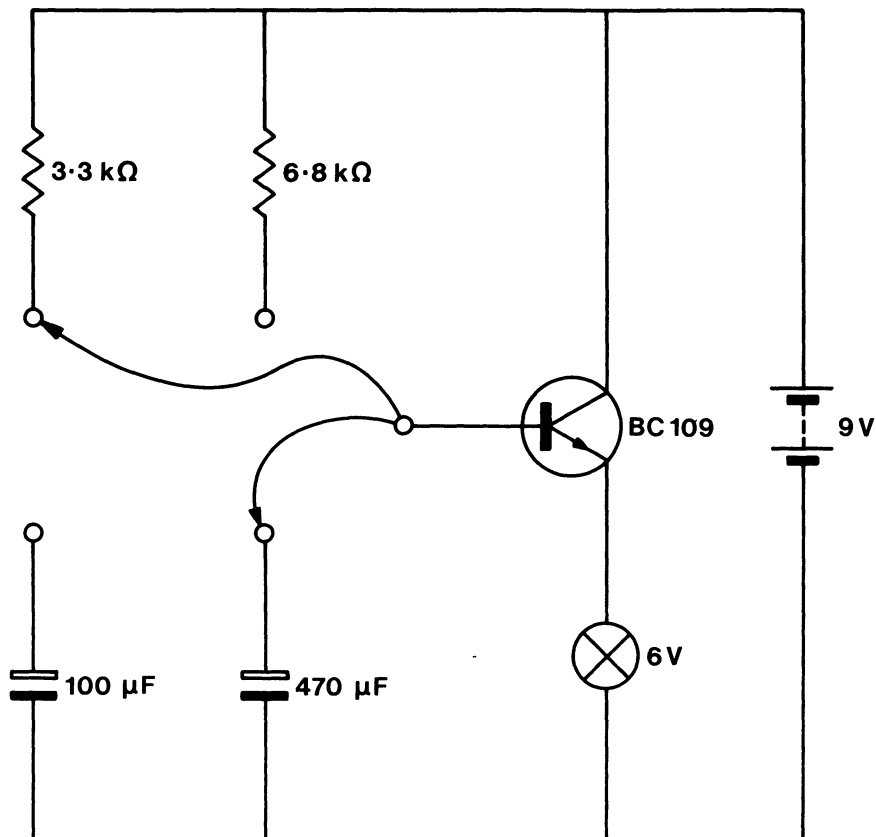

FIG. 1.23c
3. To find out how the values of capacitor and resistor affect the speed with which the capacitor charges or discharges, build the circuit of Fig. 1.23c. In the circuit the change